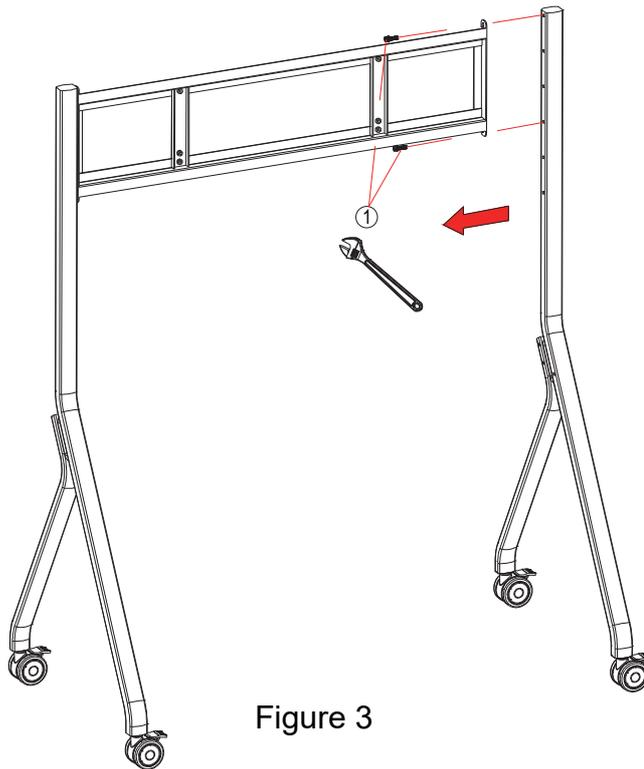

Figure 3
Step 3: Attach the other leg on the other end of the wall bracket (Figure 3).